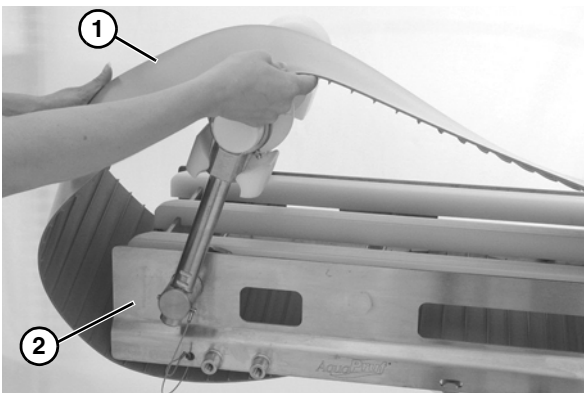

Figure 48
3. Slide the old belt (**Figure 48, item 1**) off the conveyor frame (**Figure 48, item 2**).